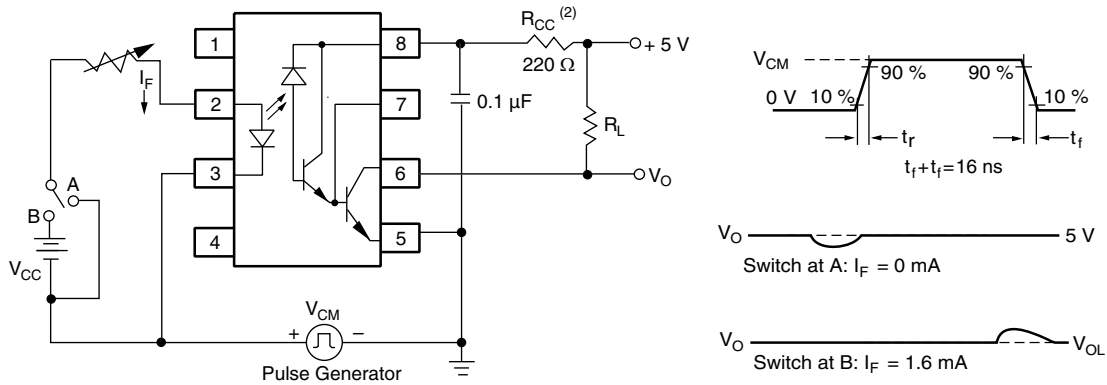

Fig. 2 - Test Circuit for Transient Immunity and Typical Waveforms
- (1) Common mode transient immunity in logic high level is the maximum tolerable (positive)  $dV_{cm}/dt$  on the leading edge of the common mode pulse,  $V_{CM}$ , to assure that the output will remain in a logic high state (i.e.  $V_O > 2 \text{ V}$ ) common mode transient immunity in logic low level is the maximum tolerable (negative)  $dV_{cm}/dt$  on the trailing edge of the common mode pulse signal,  $V_{CM}$ , to assure that the output will remain in a logic low state (i.e.  $V_O < 0.8 \text{ V}$ ).
- (2) In applications where  $dv/dt$  may exceed  $50\,000 \text{ V}/\mu\text{s}$  (such as state discharge) a series resistor,  $R_{CC}$  should be included to protect  $I_C$  from destructively high surge currents. The recommended value is refer to figure 2.